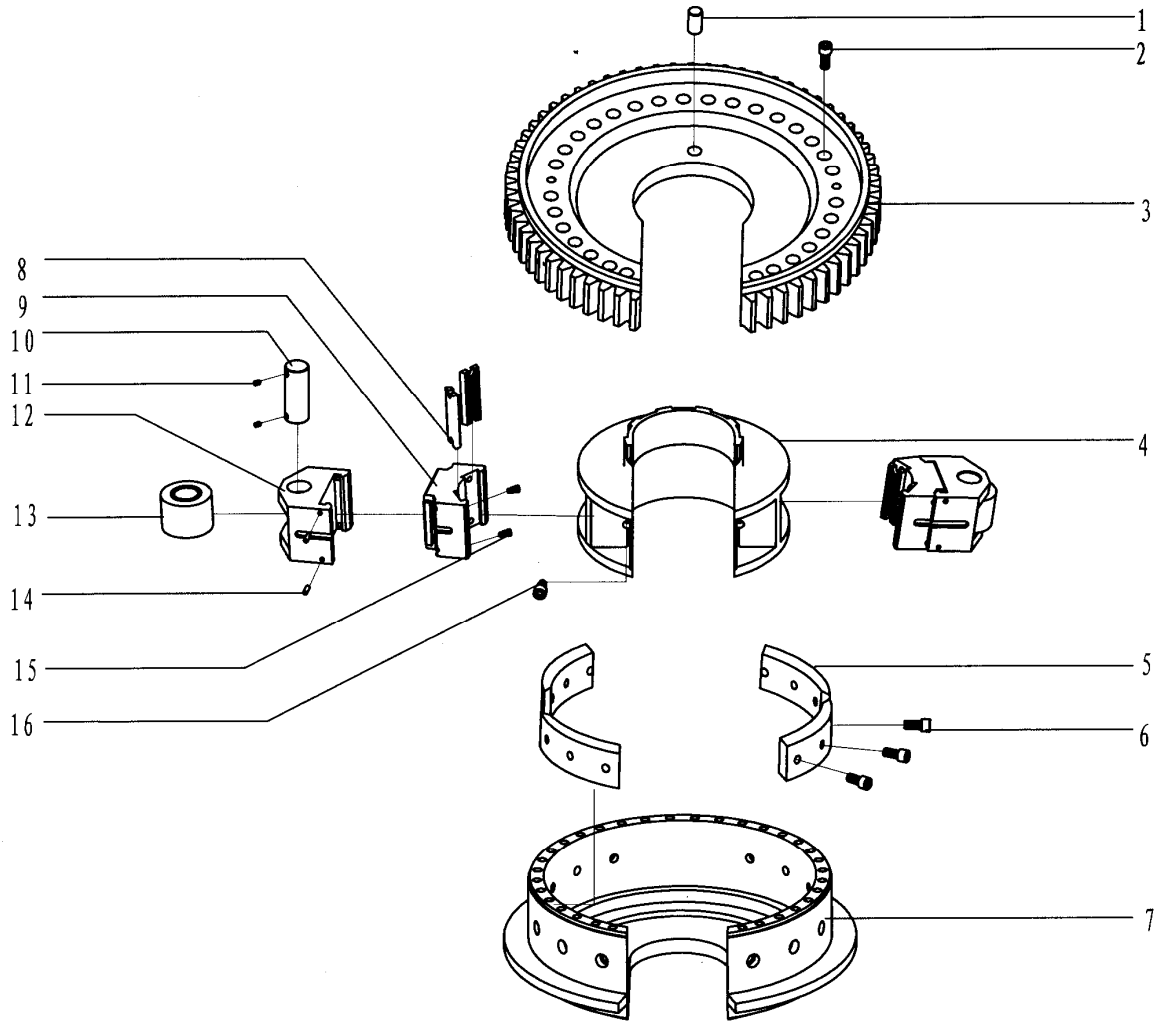

Fig4. tong head assembly
7.2.2 Tong head assembly(Fig4. Table4)